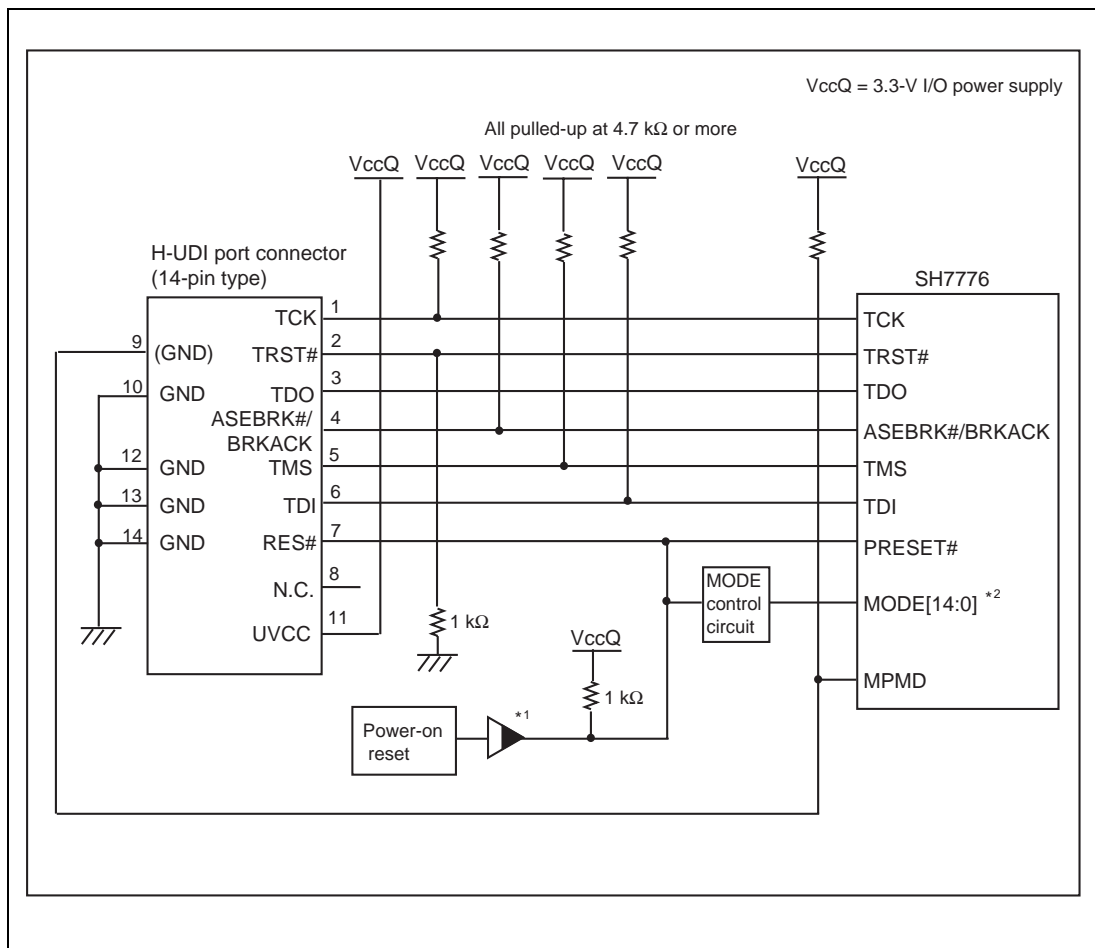

Figure 1.4 Recommended Circuit for Connection between the H-UDI Port Connector and MPU when the Emulator is in Use (14-Pin Type)
Figure 1.4 shows a recommended circuit for connection between the H-UDI port connector (14 pins) and the MPU when the emulator is in use.
- (1) When the emulator is used: $MPMD = 0$
- (2) When the emulator is not used: $MPMD = 1$Figure 1.4 shows an example of circuits that allow the MPMD pin to be GND (0) whenever the emulator is connected by using the user system interface cable. When the MPMD pin is changed by switches, etc., ground pin 9. Do not connect this pin to the MPMD pin.
7. The resistance values shown in figure 1.4 are for reference.